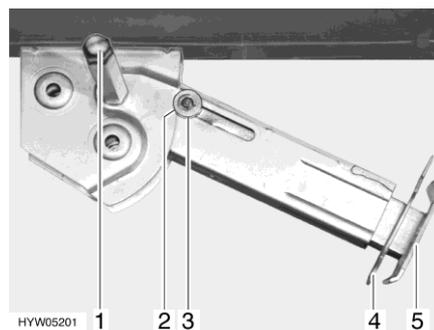

Fig. 43 Steady leg
- Place the socket spanner on the hexagon nut (Fig. 43,1) and rotate until the steady leg is in a perpendicular downward position.
- Remove the splint (Fig. 43,4) out of the support foot extension (Fig. 43,5).
- Place the socket spanner on the hexagon nut (Fig. 43,1) and rotate until the steady leg is clear of the ground.
- Push in the support foot extension (Fig. 43,5) and insert the splint (Fig. 43,4) in the drilled hole in the support foot extension.
- Rotate the hexagonal nut (Fig. 43,1) with the socket spanner until the steady leg has swung upwards and the guide disc (Fig. 43,3) has completely retracted into the notch (Fig. 43,2).